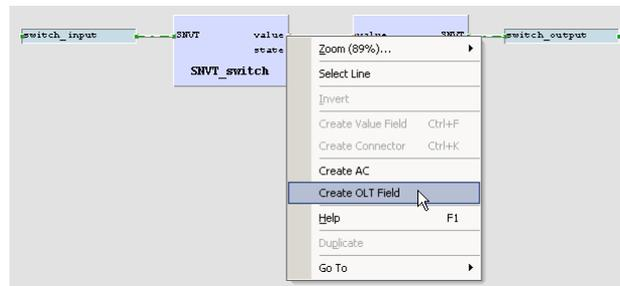

Figure 15: Create online test fields
12. For later debugging, it is good practice to add online test fields to the drawing, to display the current value of the signals during online test. To do this, right-click on the value output of the left function block and select **Create OLT Field** from the context menu, as shown in Figure 15.